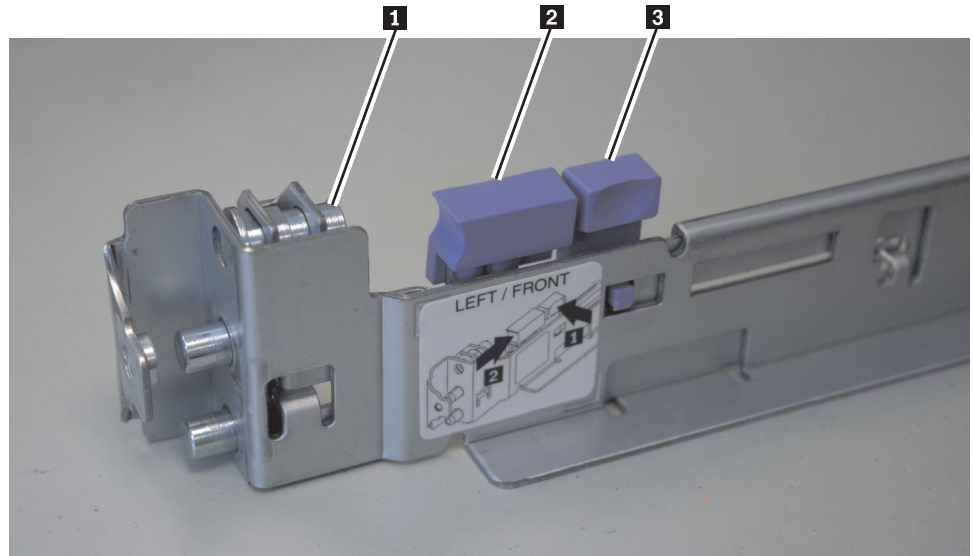

Figure 33. A closed rail-locking carrier at the front of the support rail for the SAN Volume Controller 2145-8A4
- a. Start with the left rail. If the front rail-locking carrier **1** is closed, as shown in Figure 33 on page 55, push the small tab **3** back away from the rail.